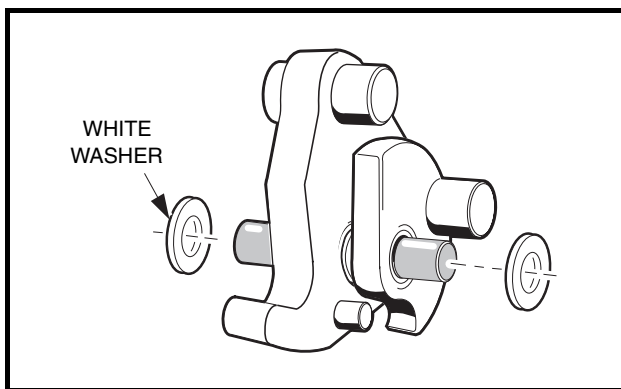

Figure 17-16 Install White Washers
10. Install white plastic flat washers on each end of the mounting pin and push them against the outside surfaces of the weights. Center the weights and washers on the mounting pin (**Figure 17-16, Page 17-11**).
11. Install the weight assemblies into the slots in the hub casting (**Figure 17-11, Page 17-8**). Make sure the mounting pin protrudes an equal amount on each side of the weights when the assemblies are in position (**Figure 17-16, Page 17-11**).